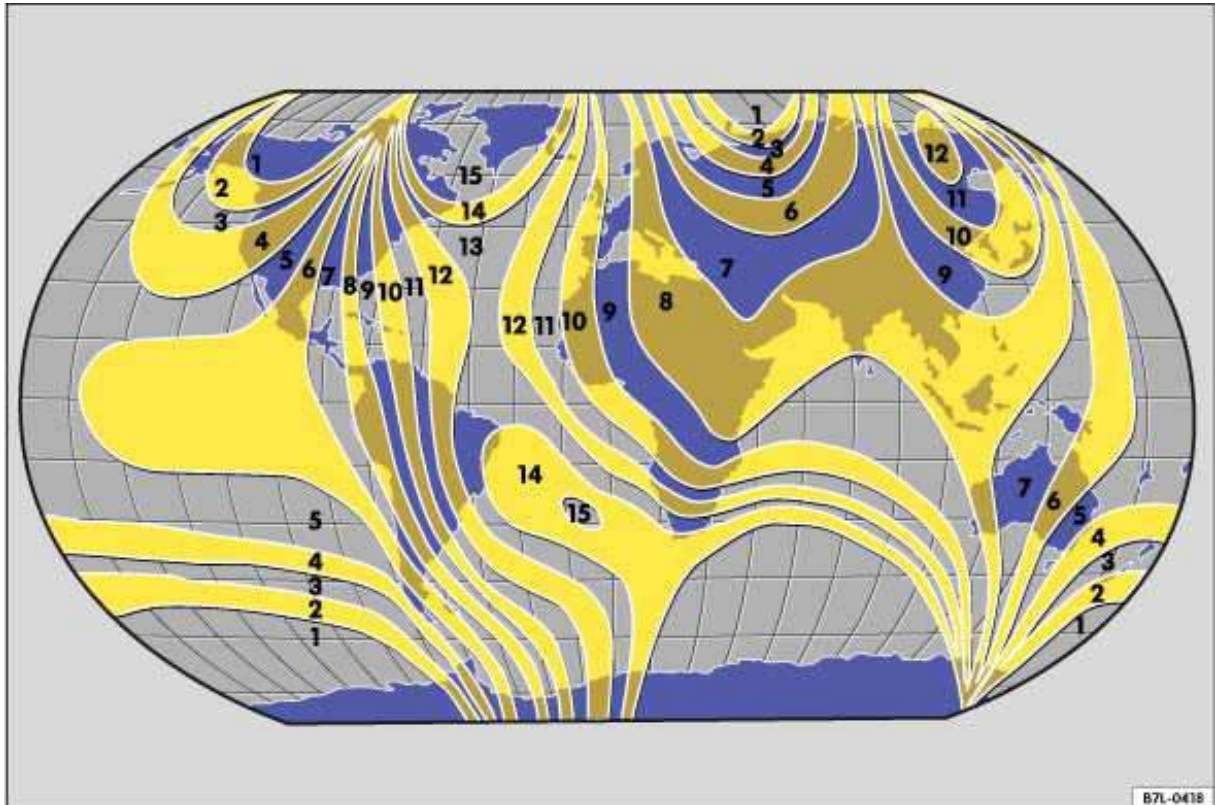

Fig. 11 Compass zones.
- Select the compass zone according to the current location ⇒ fig. 11.